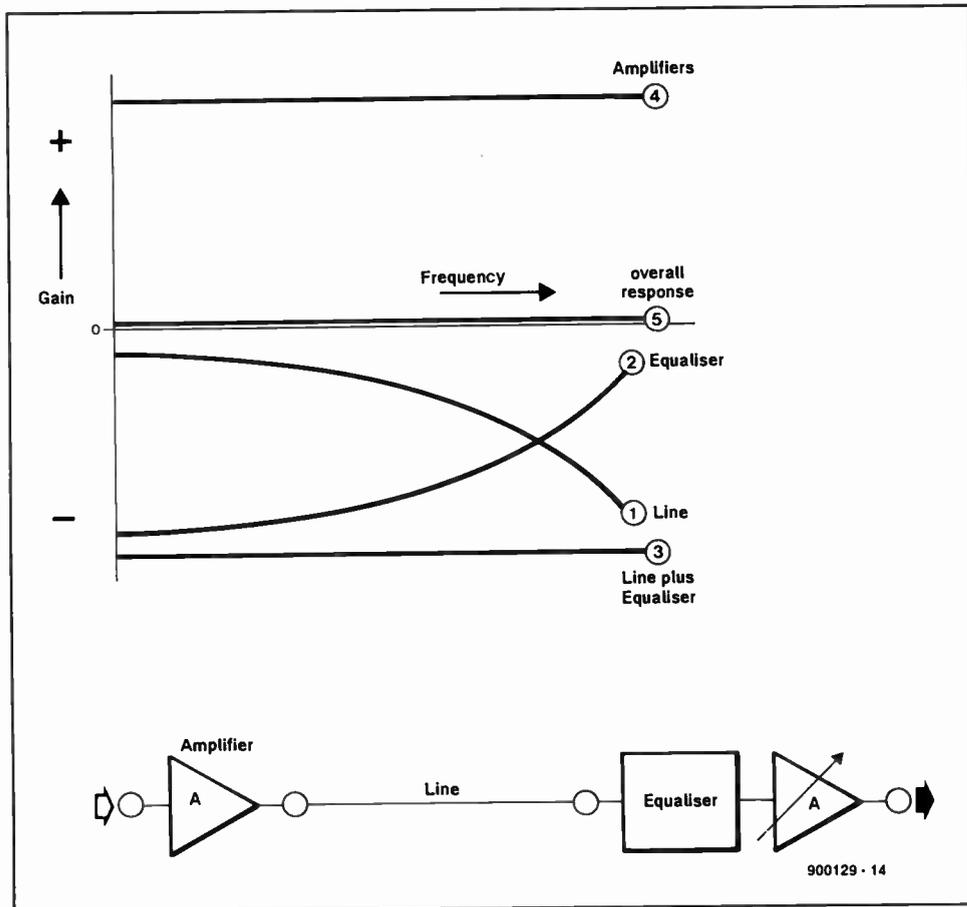
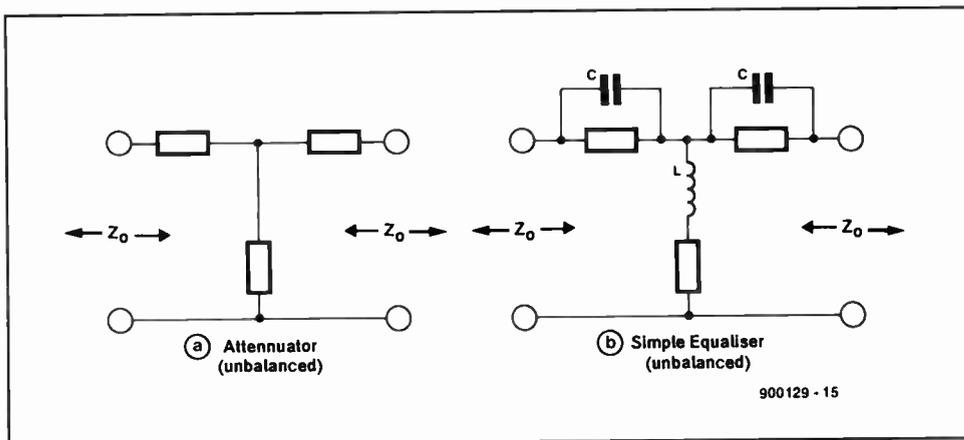

Fig. 4. A simple equalized telecommunication link.
Fig. 5. Attenuators for different frequency bands.
The receiver and the transmitter are best built on the printed-circuit boards shown in Fig. 4. Be sure to fit all polarized components (electrolytic capacitors, ICs, transistors and diodes) the right way around. Also make sure that the two rotary switches on the transmitter PCB are fitted as shown on the overlay (note the '1' mark, and the letters that indicate the poles). On completion of the two units, apply the self-adhesive foils shown in Fig. 6 to the enclosure front panels.
Complete transmission links, say between cities, are usually engineered to produce what is known as 'zero equivalent', that is, the combination of attenuation and amplification equals zero decibels. This is to enable communication to be established readily, either directly between two points, or indirectly via other points without change of amplitude of the received signal. To achieve this result, a complete link includes terminal amplifiers to counteract attenuation and 'equalizers' to counteract the variations of attenuation over the frequency band. An example of the various parts of a link is shown in Fig. 4, starting with LINE (1), EQUALIZER (2), and so on. The design of an equalizer starts with the design of an attenuator that has an attenuation which is slightly greater than the variation of attenuation of the line over the operating frequency range. A simple attenuator (for an unbalanced line) is shown in Fig. 5 (a). Reactive elements are then added to reduce attenuation at the higher frequencies as shown in Fig. 5 (b). This produces finally an attenuation/frequency characteristic of line plus equalizer that is approximately flat. The equalizer is located at
When transmission lines are used for communication, it is usual to operate them between resistive terminations that are equal to the characteristic impedances Z_0 of the lines. This produces an attenuation/frequency curve that is smooth as was shown in Fig. 4, curve number 1, enabling a simple equalizer to be designed as was shown in Fig. 5.